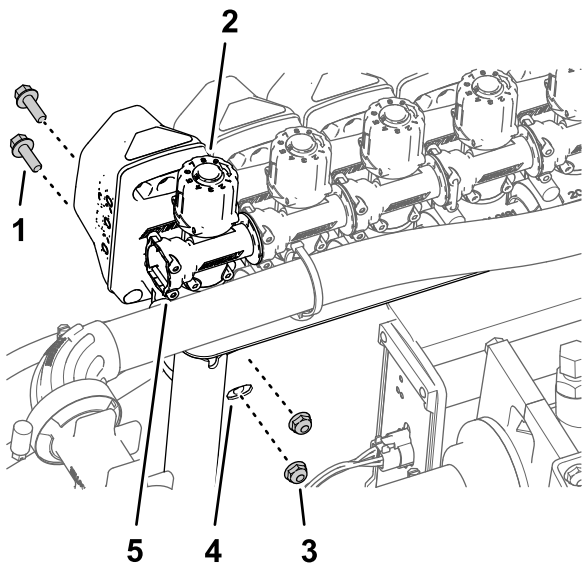

**Figure 107**
3. Assemble nozzle valve 10 to the valve mount (Figure 107 or Figure 108) the with the 2 flange-head bolt (1/4 x 3/4 inch) and 2 locknut (1/4 inch) that you removed in step 2 of Removing the Section Valves from the Manifold Mount (page 34).